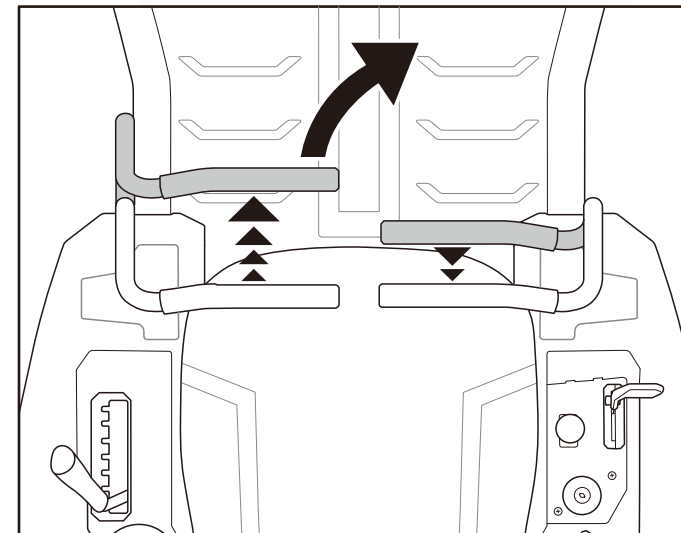

Fig. 16A
1. To turn to the right, move the right drive control lever rearward of the left drive control lever. (Fig. 16A)